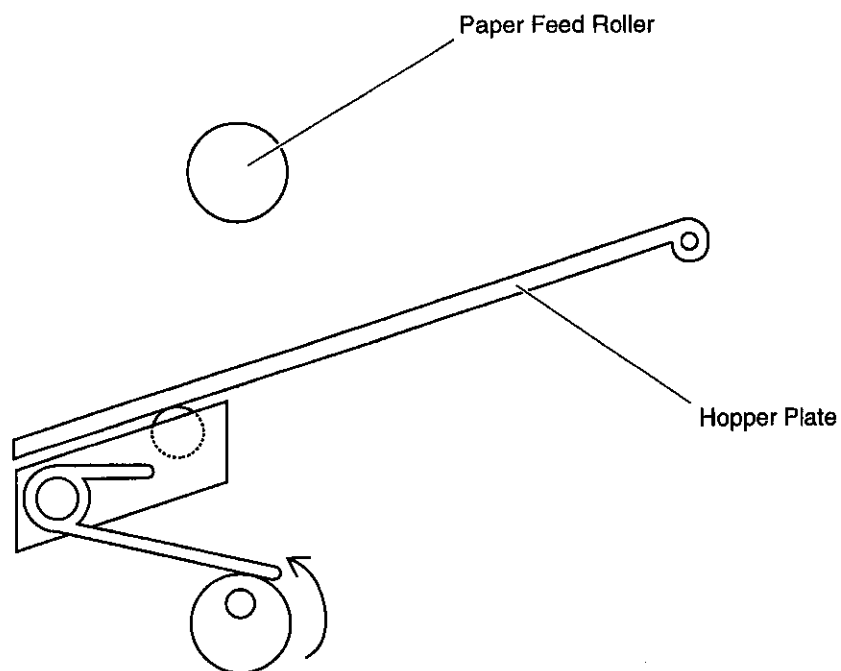

Fig. 6-5
- (4) When Hopper cam is in condition as shown in Fig. 6-5, the paper can be set.
- (6) And when the Hopper cam still more rotates in the direction of arrow, the cam rotates until the position as shown in Fig. 6-5, and Hopper Plate goes down.